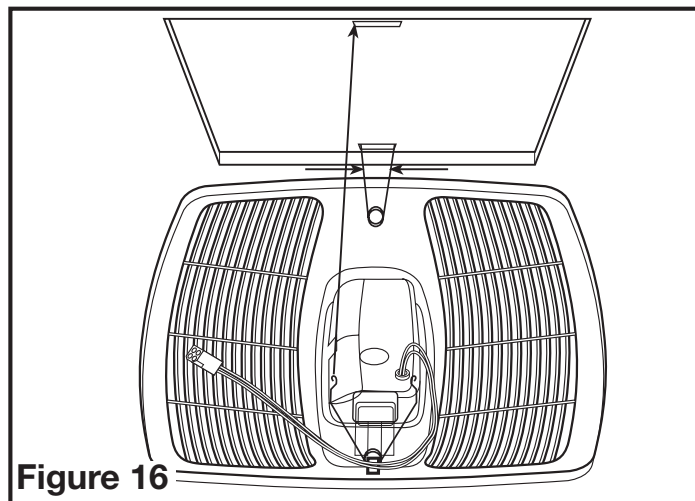

Figure 16
- 5a. **STANDARD AND HUMIDITY SENSING MODELS:** Install the grill by squeezing the springs together and installing it up into the slot furthest from the wire compartment on the fans housing. Attach the 4 pin quick connect from the grill to the 4 pin connector on the top of the wire cover. The cord will only fit one way into the receptacle. Install the other spring and push the grill up into position. (**Figure 16**).